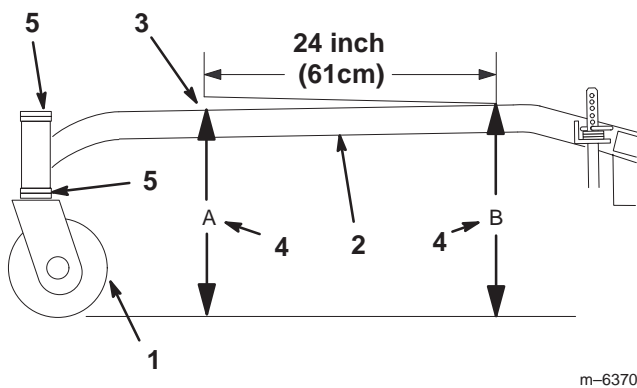

Figure 52
The carrier frame must have a pitch of a 1/4 inch (6 mm) over the length of 24 inches (61 cm) on the carrier frame (Fig. 52).
1. Measure out 24 inches (61cm) on the carrier frame (Fig. 52).
2. Measure carrier frame height at location **A** (Fig. 52).
3. Measure carrier frame height at location **B** (Fig. 52).
4. The height at location **A** must be a 1/4-3/8 inch (6 mm -10 mm) lower than location **B** (Fig. 52).
5. If the carrier frame is not correct, move caster spacers to make it a 1/4-3/8 inch (6 -10 mm) pitch (Fig. 52). Move spacers from top or bottom to make the correct pitch.